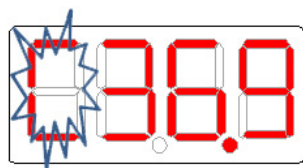

Figure 7 Flashing Display in Calibration mode
b. The Display will show the temperature assumed by the controller. For example, refer to Figure 7